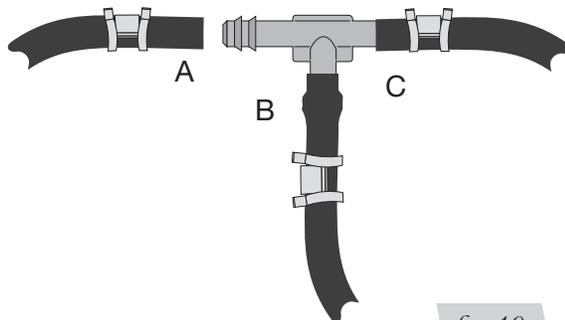

fig. 10
3. Push the air line over one side of the tee until all the barbs are covered. With a pair of pliers, slide the air line clamp forward until it fully covers the barbed section. Repeat entire procedure for other leg of the tee (Fig. 10).